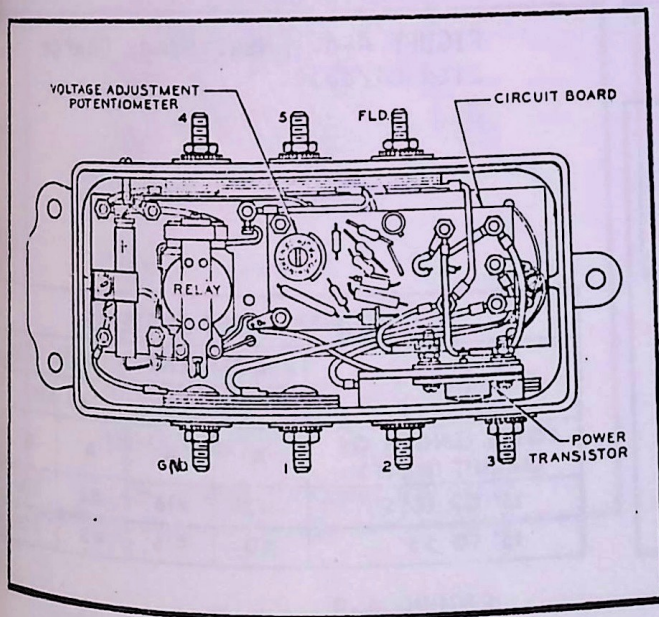

FIGURE 4-1
4.1.1 Battery voltage applied to regulator terminals #5 and "GND" should cause the relay contacts to close. If the relay does not close, examine all wire and connections from terminals #5 and "GND" to the relay coil for loose connections, burns, or damage of any kind. Refer to Figure 4-1.
4.6.1 After the field relay has closed, increase the alternator speed to approximately 2000 RPM. Apply a load of 10 amperes and set the voltage at 13.8 to 14.2 volts. To adjust the voltage, insert a screwdriver in the potentiometer adjusting slot. See Figure 4-1 for reference. To increase the voltage, turn in a counter-clockwise direction.
4.9.1 Connect the positive ohmmeter lead (as previously determined by the battery test) to the top pin lead of the power transistor. With the negative lead of the ohmmeter, touch the other pin lead and then touch the case of the power transistor. Both meter readings should show a low resistance value and both meter readings should be about the same value. A zero resistance would indicate a shorted transistor while no reading (infinity) would indicate an open transistor. Refer to Figures 4-1 and 4-9.